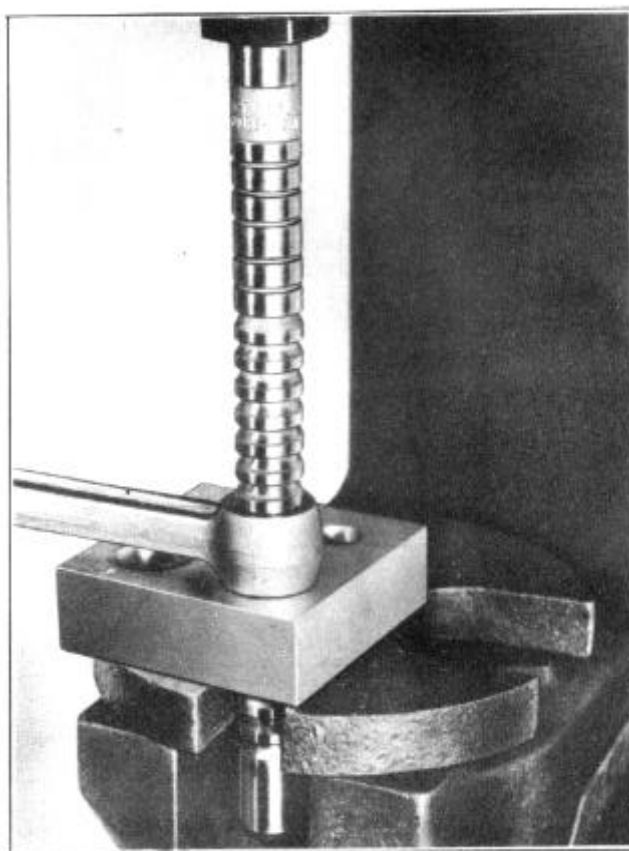

FIGURE 28
3. After bushing has been pressed into the rod, using Burnisher Block J-2950, 6 cylinder and J-2951, 8 cylinder and with J-2791 Burnisher and Broach 6 cylinder and J-2949 Burnisher 8 cylinder iron the bushing in place in the rod, Figure 28.